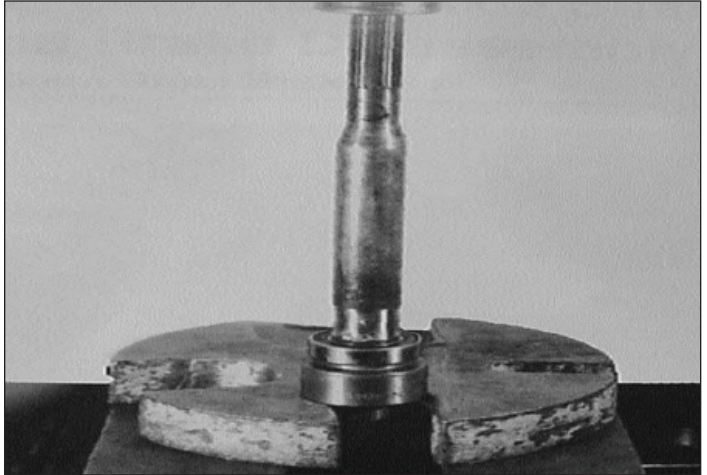

Figure 6-20. Installing Bearings on Axle Shaft
1. Press bearings (26) onto axle shafts (22). Bearing should seat on shoulder. Use appropriate driver to install bearings (Figure 6-20).
2. Coat lip of seal (24) with SAE 30 oil before inserting axle shaft (22). Insert axle shaft assemblies into tubes. Using a properly sized bearing driver, tap axle shaft assembly until it is seated firmly against inner snap ring (25).